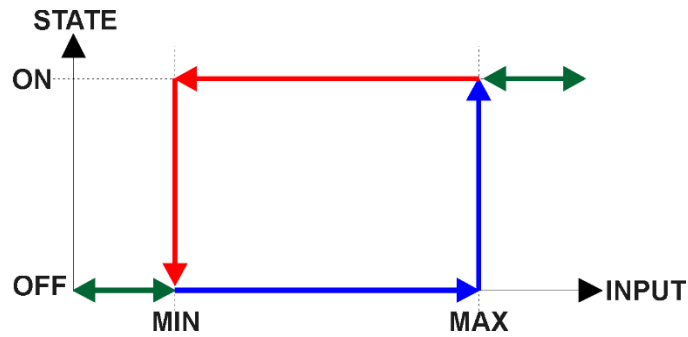

Figure 6 – Analog Input Reads as Digital
There is another type of 'digital' input that can be selected when 6112h is set to 20 = Analog On/Off. However, in this case, the input is still configured as an analog input, and therefore the objects from the Analog Input (AI) block are applied instead of those discussed above. Here, objects 2020h, 2030h and 6030h are ignored, and 6000h is written as per the logic shown in Figure 6. In this case, the MIN parameter is set by object 7120h **AI Scaling 1 FV**, and the MAX is set by 7122h **AI Scaling 2 FV**. For all other operating modes, object 6000h will always be zero.